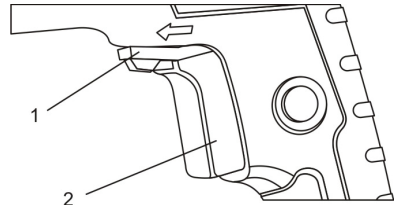

Fig. 1
The forward/reverse switch (1) is conveniently mounted in front of the trigger switch (2) (Fig. 1). To make the drill rotate clockwise for drilling, push the forward/reverse switch to the left. To make the drill rotate counterclockwise, push the forward/reverse switch to the right.